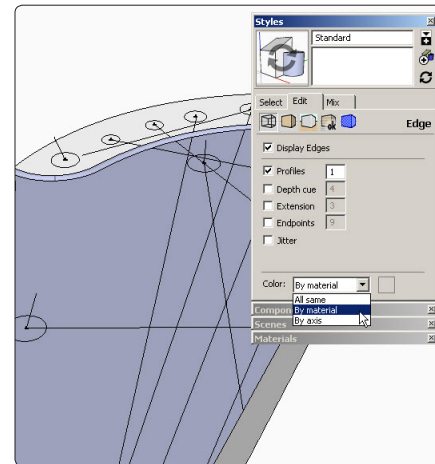

Figure 7. To make lines appear in different colors, first edit the style for edges to have colors By material rather than All same.
Step 1 Open the Styles dialog box, as shown in Figure 7. Edit the Edge Settings by clicking on the first cube in